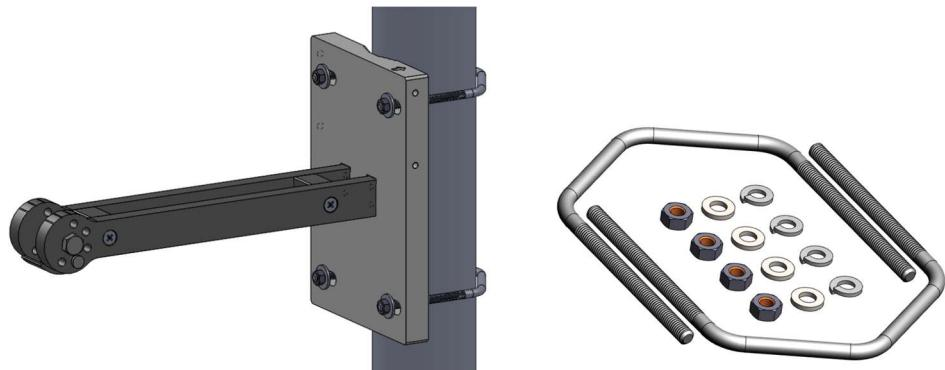

Figure 18: Pole Mounting Accessories
4. The mounting bracket assembly can be pole or wall mounted. For pole mounting option, shown in Figure 18, use the supplied U-bolt accessory kit. Tighten the mounting screws to 2.5 Nm (22 in-lbs). NOTE: Wall mounting hardware is not included and shall be field supplied and selected to support the full system weight.